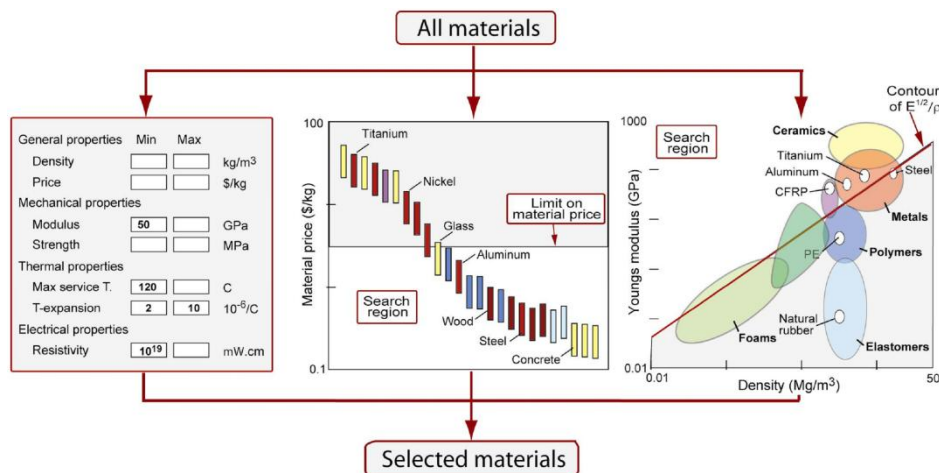

Figure.3: Computer-aided selection of materials
- 6. Material Selection:** This is one of the most important fields of materials science because it determines the material that is suitable for a specific application and studies all of the circumstances surrounding this choice to determine the suitability of the material for that application. With the development of technology, it has become possible to select materials using computer-aided programs, as shown in the **Figure.3**.